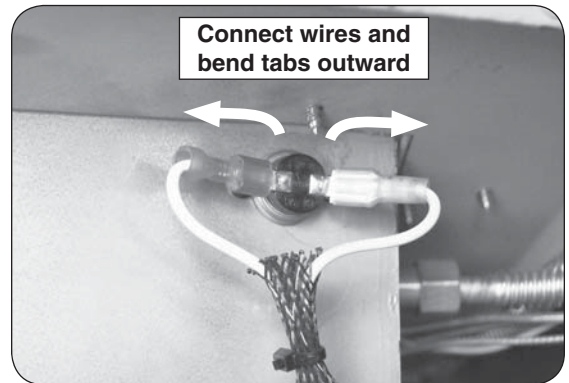

Fig. 3-2 Connect wires and bend tabs outward
2. Connect the two wires to the wire connector tabs. Using your hand, bend the tabs outward as shown in Fig. 3-2.